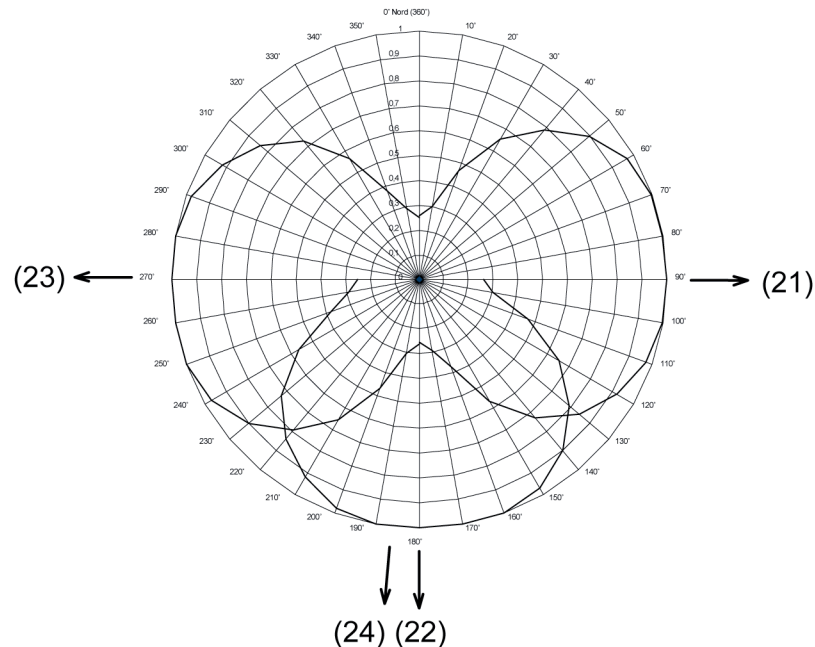

Figure 13: Circular chart for brightness detection
To detect twilight, a separate linear sensor is built in that determines the illumination from the direction of brightness sensor 2 (24). The measurement range covers from 0 to 674 lux, and is sent via a 2-byte object. In order to display the current illumination, the measured value can be sent when there is a settable difference relative to the measurement range upper range value. Cyclic sending of the values is also possible. Two settable limiting values are available, for each of which the weather station can transmit switching telegrams when they are exceeded or undershot. There is the option of setting these limiting values internally and permanently, or externally and variably, for example using visualisation software. The settings for the limiting values and the hysteresis is the same for all analog sensors of the weather station. This is described in detail in the section "Limiting value settings".(Figure 13)